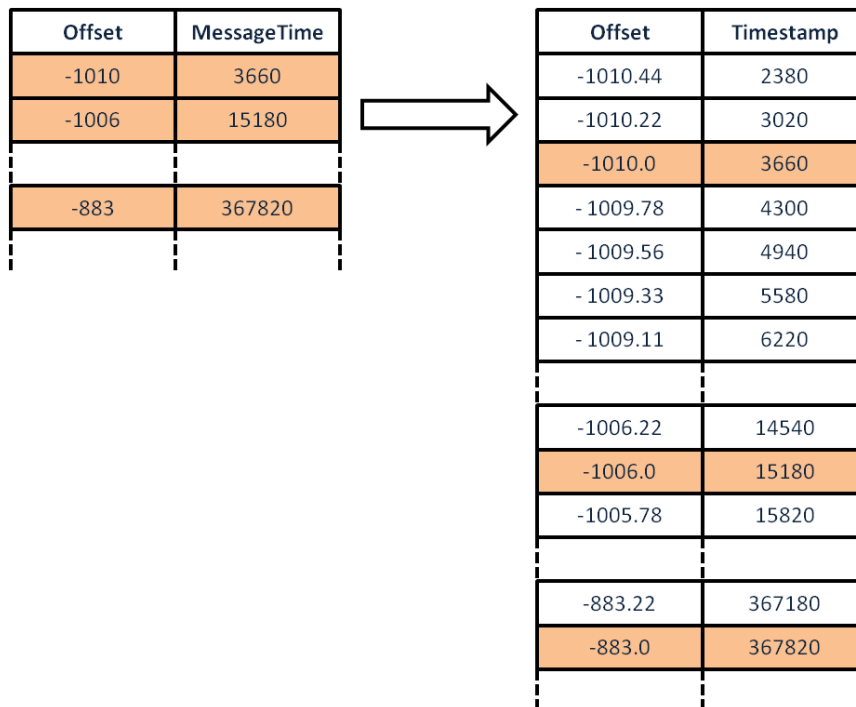

Figure 8-3: Step 5-2
- Interpolate the {*message time*, *offset*} pairs using the slave timestamps as shown in Figure 8-3:
- A minimum mean square error fit or similar will provide reasonable results. However, the ideal fit would produce a lower bound on the estimated offset values, as illustrated in Figure 8-3: Step 5-2